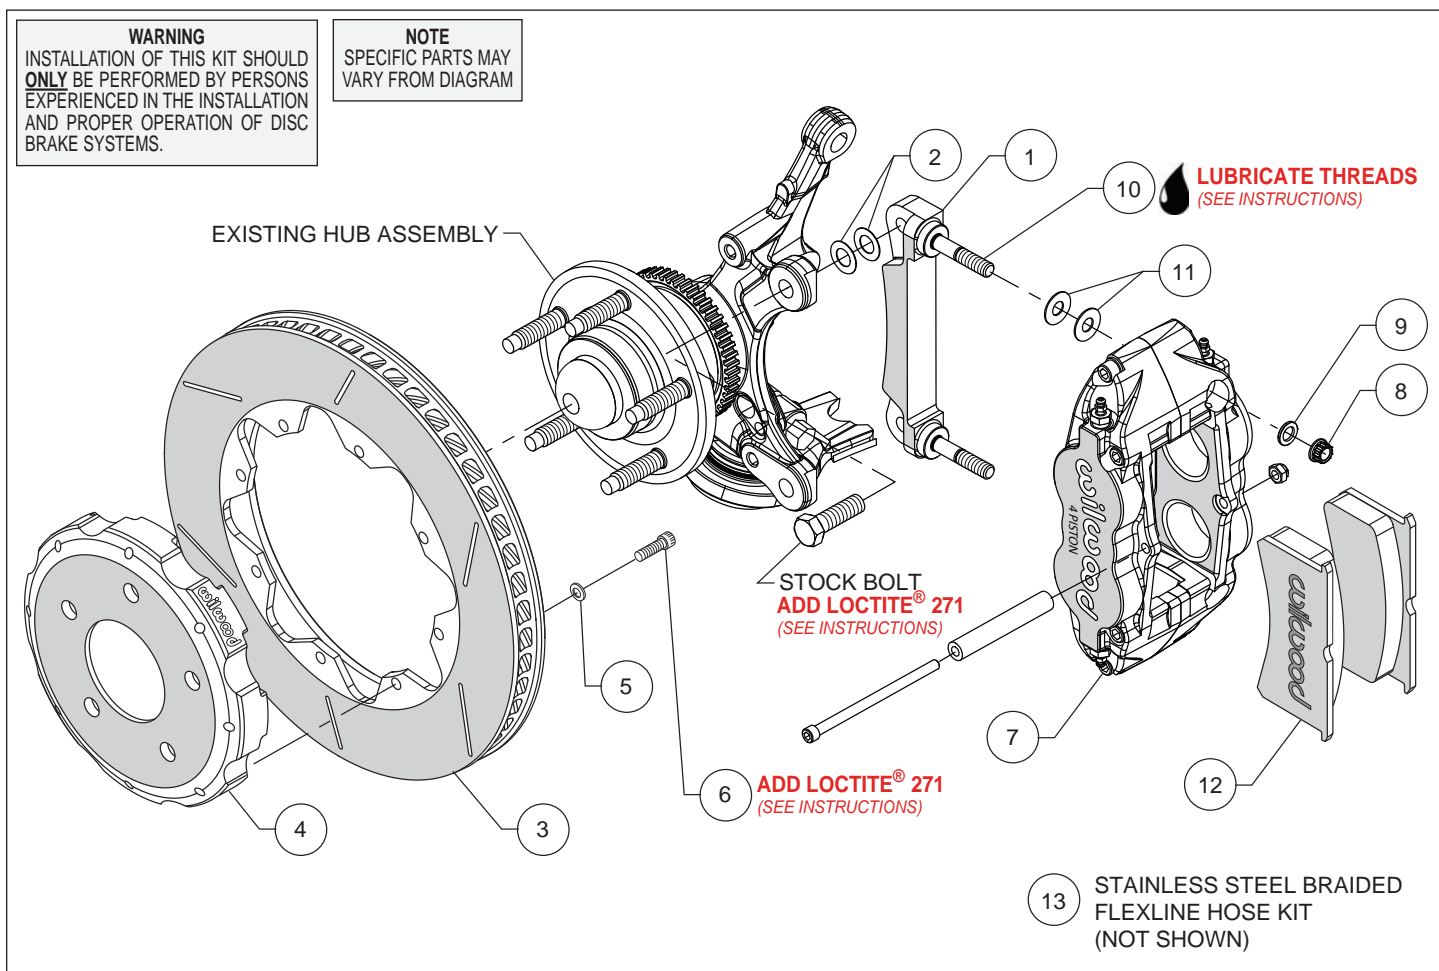
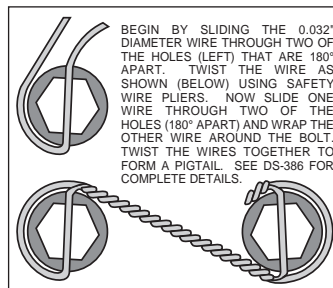

Figure 1. Typical Installation Configuration
Figure 4. Safety Wire Diagram
Assembly Instructions (numbers in parenthesis refer to the parts list and Figure 1 on the preceding pages):
- The caliper mount bracket (1) should initially be installed with clean, dry threads on the mounting bolts. Orient the bracket as shown in Figure 1 and Photo 1, then install using OEM mounting bolts. Initially place two .020" thick shims (2) on each bolt between the bracket and upright, Figure 1. Temporarily tighten the mounting bolts. **NOTE:** *The bracket must fit squarely against the mount bosses on the upright.* Inspect for interference from casting irregularities, machining ridges, burrs, etc. Later, after the caliper alignment has been checked, the mount bolts will be secured using red *Loctite*[®] 271.
- Orient the rotor (3) and the hat (4) as shown in Figure 1 and Photo 2. Attach rotor to hat using bolts (6) and washers (5). Using an alternating sequence, apply red *Loctite*[®] 271 to the threads, and torque to 25 ft-lbs. For an added measure of security, the bolts may be safety wired using standard 0.032 inch diameter stainless steel safety wire as shown in Figure 4. Please refer to Wilwood's data sheet DS-386 (available at www.wilwood.com/Pdf/DataSheets/ds386.pdf) for complete safety wire installation instructions.
- NOTE:** *This kit contains distinct right and left hand calipers that must be mounted in a specific direction, as described below.* Lubricate the caliper mounting studs (10) with lightweight oil. Initially place two .035" thick shims (11) on each stud between the caliper and the bracket, as shown in Figure 1 and Photo 3. With the bleed screws pointing up, mount the caliper (7) onto the bracket (1) using lock nuts (8) and washers (9), Figure 1. Temporarily tighten the lock nuts. Ensure that the caliper is mounted so the largest pistons are at the rotor exit end of the caliper, in relation to the direction of the rotor. View the rotor through the top opening of the caliper. The rotor should be centered in the caliper, Photo 4. If not, adjust by adding or subtracting shims (2) between the bracket and the upright. Always use the same amount of shims on each of the two mounting bolts. Once the caliper alignment is correct, remove the bracket mounting bolts one at a time, apply red *Loctite*[®] 271 to the threads, and torque to OEM manufacturer specifications.